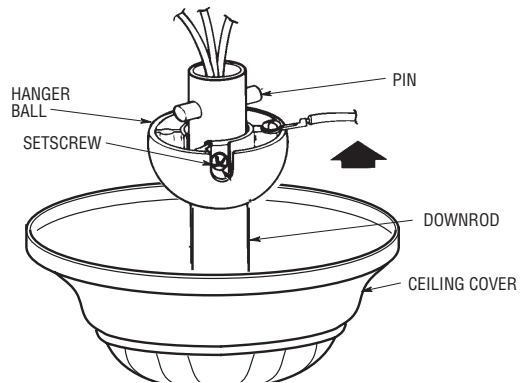

Figure 4
6. Reinstall the hanger ball (Figure 4) on the downrod as follows. Route the three 80" motor leads through the hanger ball. Position the pin through the two holes in the downrod and align the hanger ball so the pin is captured in the groove in the top of the hanger ball. Pull the hanger ball up tight against the pin and securely tighten the setscrew in the hanger ball. A loose setscrew could create fan wobble.